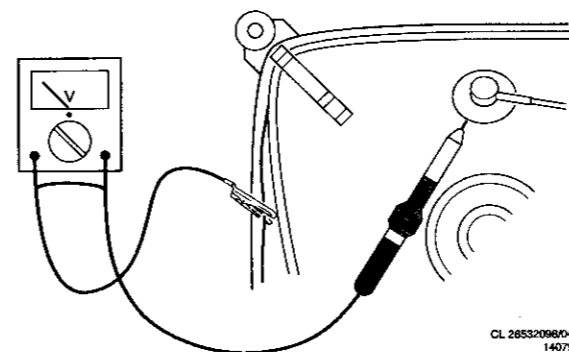

Fig. 3.1
2. In order to prevent damage to ICs and transistors, all high-voltage flash-overs must be avoided. In order to prevent damage to the picture tube, the method shown in Fig. 3.1 should be used to discharge the picture tube. Use a high-voltage probe and a multimeter (position DC-V). Discharge until the meter reading is 0 V (after approx. 30 sec).